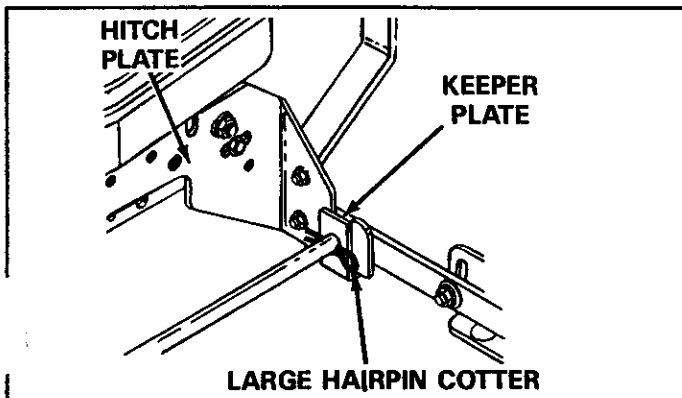

FIGURE 11
- Slide one keeper plate to each side of mounting shaft with lip under hitch plate and secure with 1/8" (large) hairpin cotter. See figure 11.